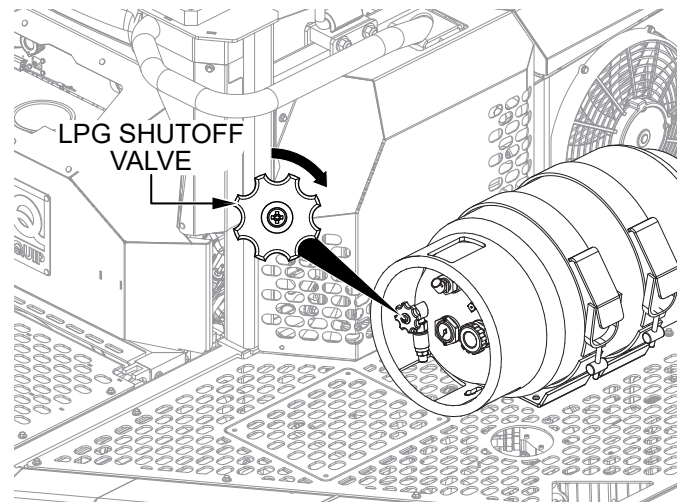

Figure 54. Propane Tank Shutoff Valve (Closed)
3. If LPG mode was in use, turn the **propane shutoff valve** clockwise (Figure 54) until closed.